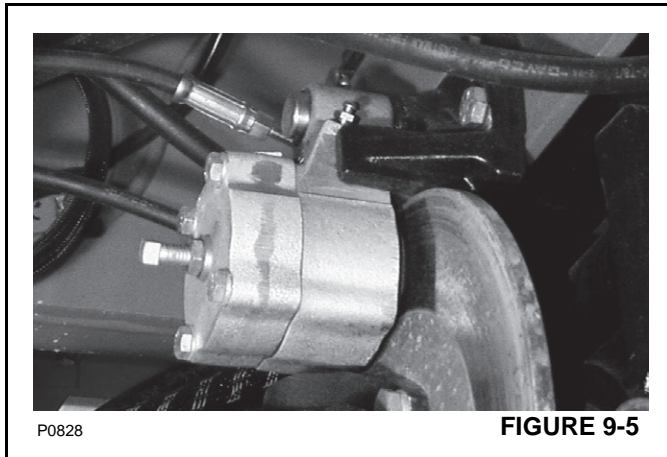

FIGURE 9-5
2. Attach a tube to the bleed screw on the parking brake (Figure 9-5) and place the other end in a suitable container.